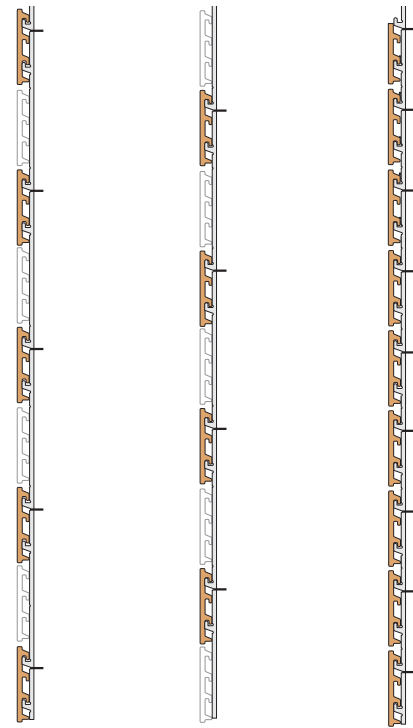

FIG. H6
- There are three types of SLAT Profiles. Type A, Type B, and Type C (FIG. H6).